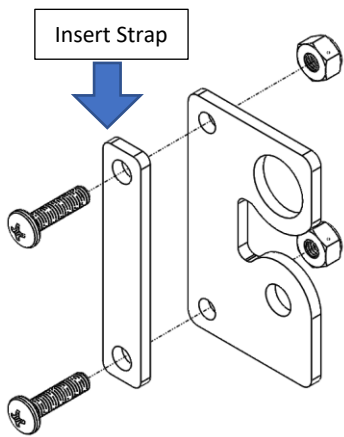

Figure 5: Adjustable Strap Clamp Assembly
- 18. Install the adjustable door strap onto the hard stop bracket using the strap clamp to secure it. Feed the strap clamp through the largest eyelet in the strap and bolt it to the hard stop bracket. Direct the strap towards the lower hinge when tightening down the clamp. Reference Figure 5 and 6.